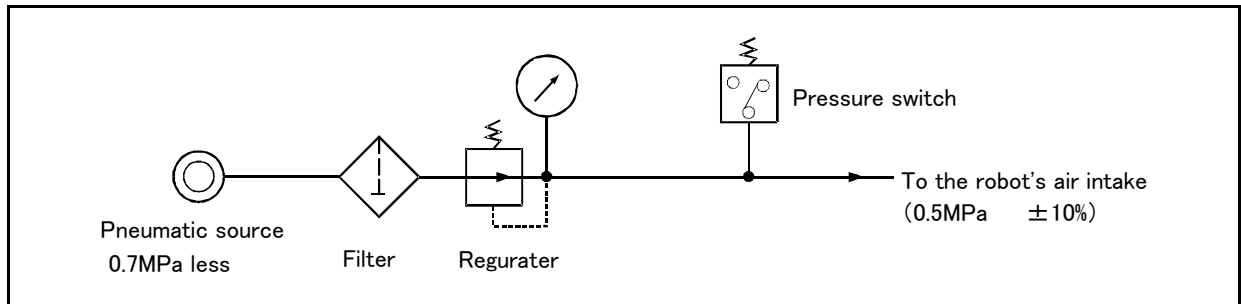

Fig.2-15 : Air supply circuit example for the hand
Fig. 2-15 shows an example of pneumatic supply circuitry for the hand.
- (1) Place diodes parallel to the solenoid coil.
- (2) When the factory pneumatic pressure drops, as a result of the hand clamp strength weakening, there can be damage to the work. To prevent it, install a pressure switch to the source of the air as shown in Fig. 2-15 and use the circuit described so that the robot stops when pressure drops. Use a hand with a spring-pressure clamp, or a mechanical lock-type hand, that can be used in cases where the pressure switch becomes damaged.
- (3) Supply clean air to the vacuum generation valve when you use clean type robot.